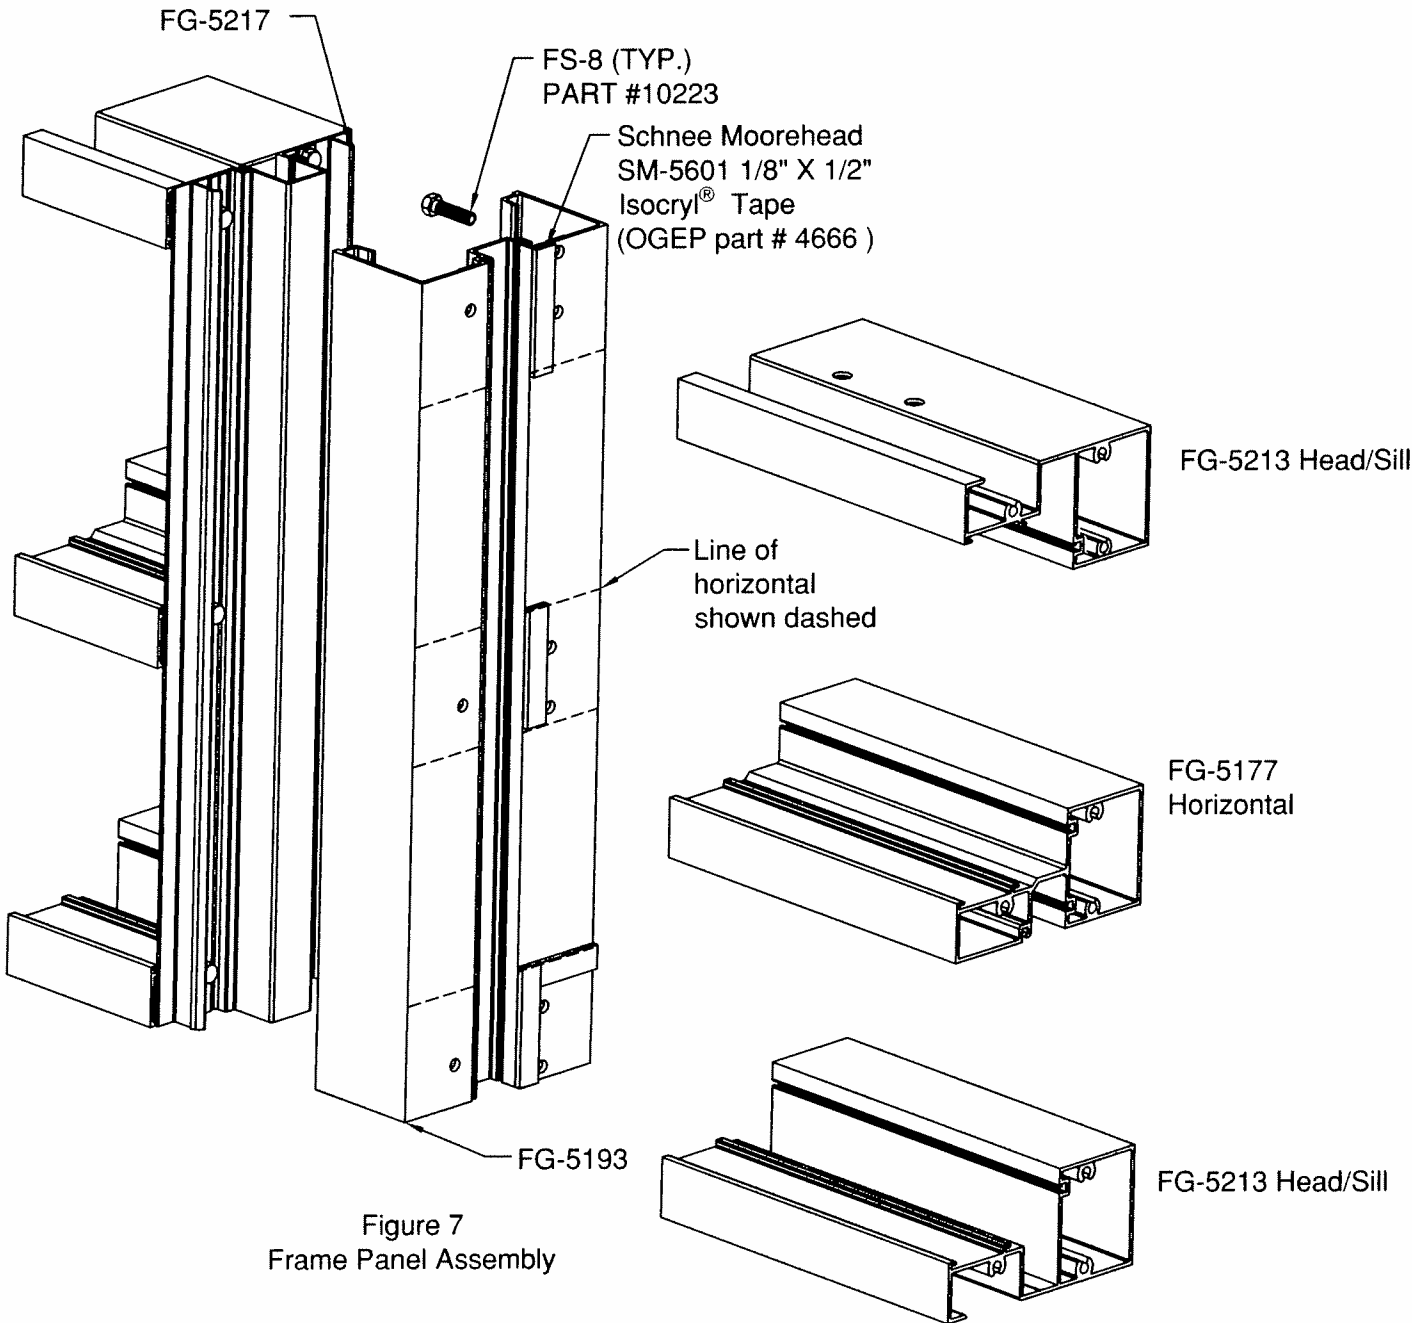

Figure 7
- 2.2.1 Clean framing members at locations where Isocryl[®] Tape is noted to be attached. SEE FIGURE 7, at tape intersection there should be no gaps.
Note: also install FG-5185 at vertical , if it was not installed prior to attaching horizontals **see Figure 7 on sheet 7** .